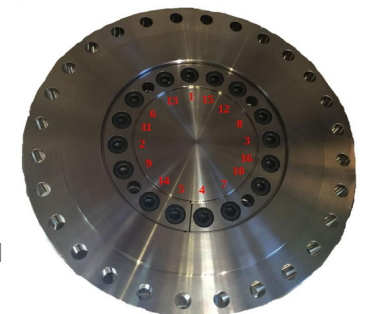

Fig. 5 Detail of screws tightening pattern (as example)
4. Set a calibrated torque wrench approximately 5% higher than the specified tightening torque. **Progressively tighten the screws in a crosswise pattern (fig. 5), using ¼ turns for several passes** until ¼ turns can no longer be achieved. Start with the screw located at approx. 180° from the slit. The screws adjacent to the slit shall be tightened sequentially (fig. 5).